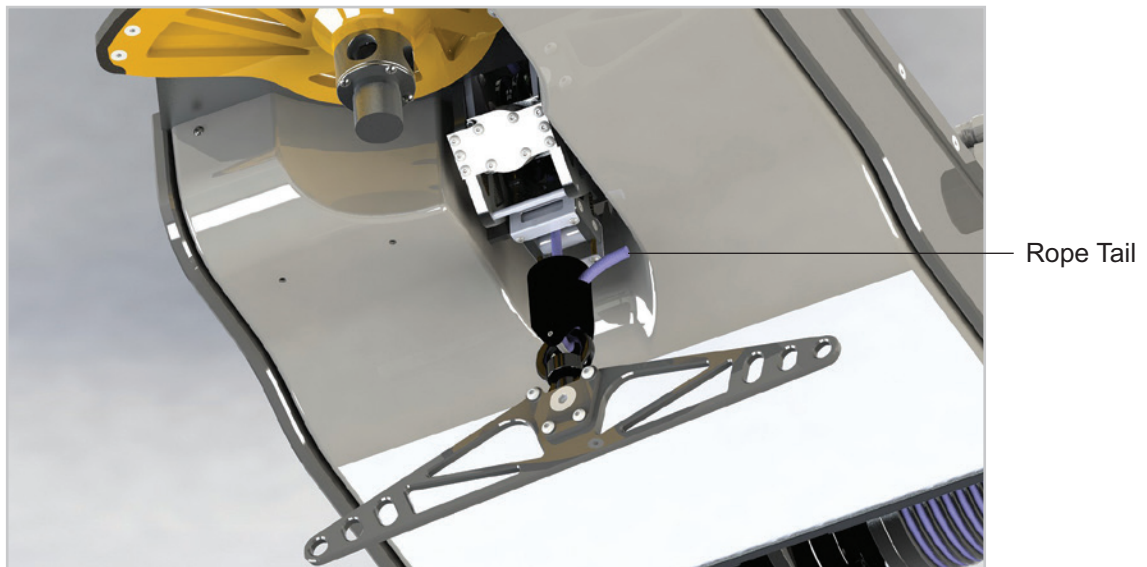

Figure 13-1: Rope Tail
- Inspect the rope tail. See Figure 13-1. If the rope tail is not visible, the rope knot has been compromised. Call Bioness at 800.211.9136, Option 3 (in the United States) or your local distributor (outside of the United States) for a service appointment